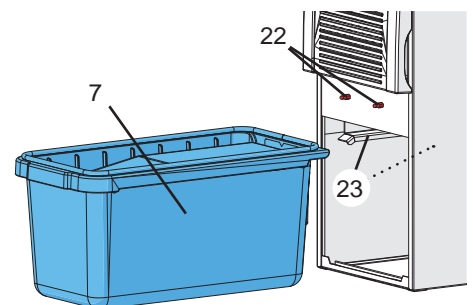

Fig. 16
- ⇒ Inspect the dust drawer seal for damage and replace it, as required (24)
- ⇒ Insert the dust drawer, making sure it is straight, and push it in as far as it will go. Make sure that the dust drawer is seated correctly on the guide (23, fig.16)
- ⇒ Install the front panel (5, fig.1) on the bottom hooks then push it into the upper lock bolts (22, fig.16), pressing firmly until it locks in place.